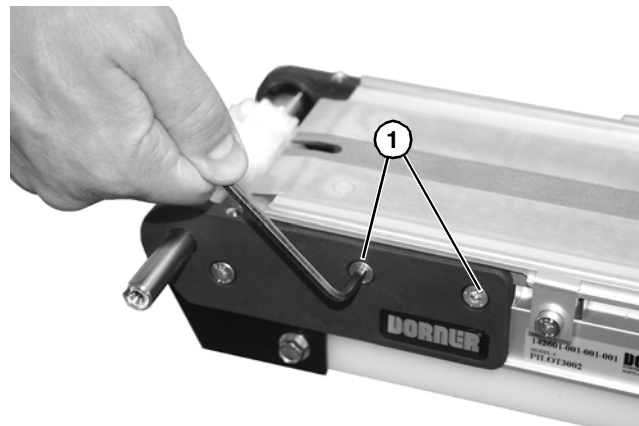

Figure 55
4. Install and tighten fastening screws (**Figure 55, item 1**) to 60 in-lb (7 N-m).